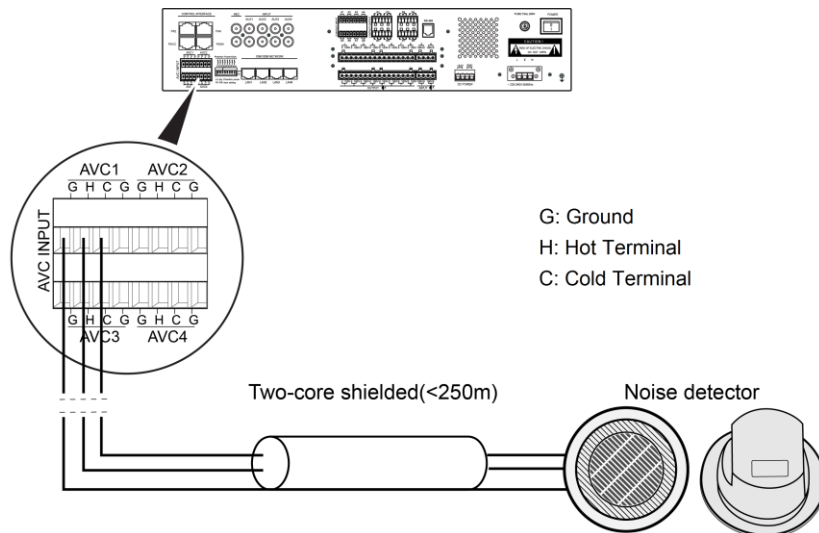

Figure 23 Schematic Diagram of the Noise Detector Connection
3. Install the noise detector on the other end of the AVC cable, as shown in Figure 23.